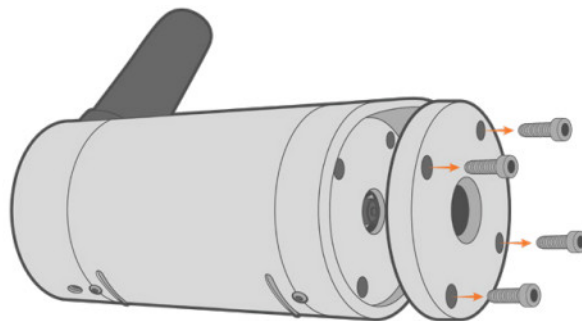

Figure 2: Remove the camera lens cover.
1. Use a 7/64" hex driver to remove the (4) screws holding the lens cover.
- a. Carefully lift the lens cover, avoiding contact with the camera lens (Figure 2).